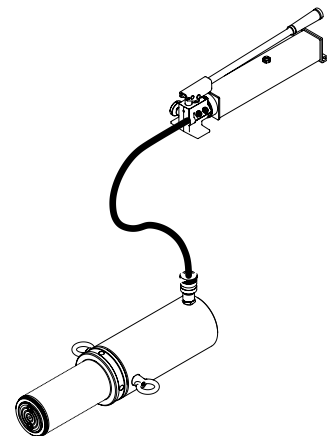

Figure 2 - Bleeding air from the system
1. Place pump at a higher elevation than the hose and cylinder as shown in figure 2.